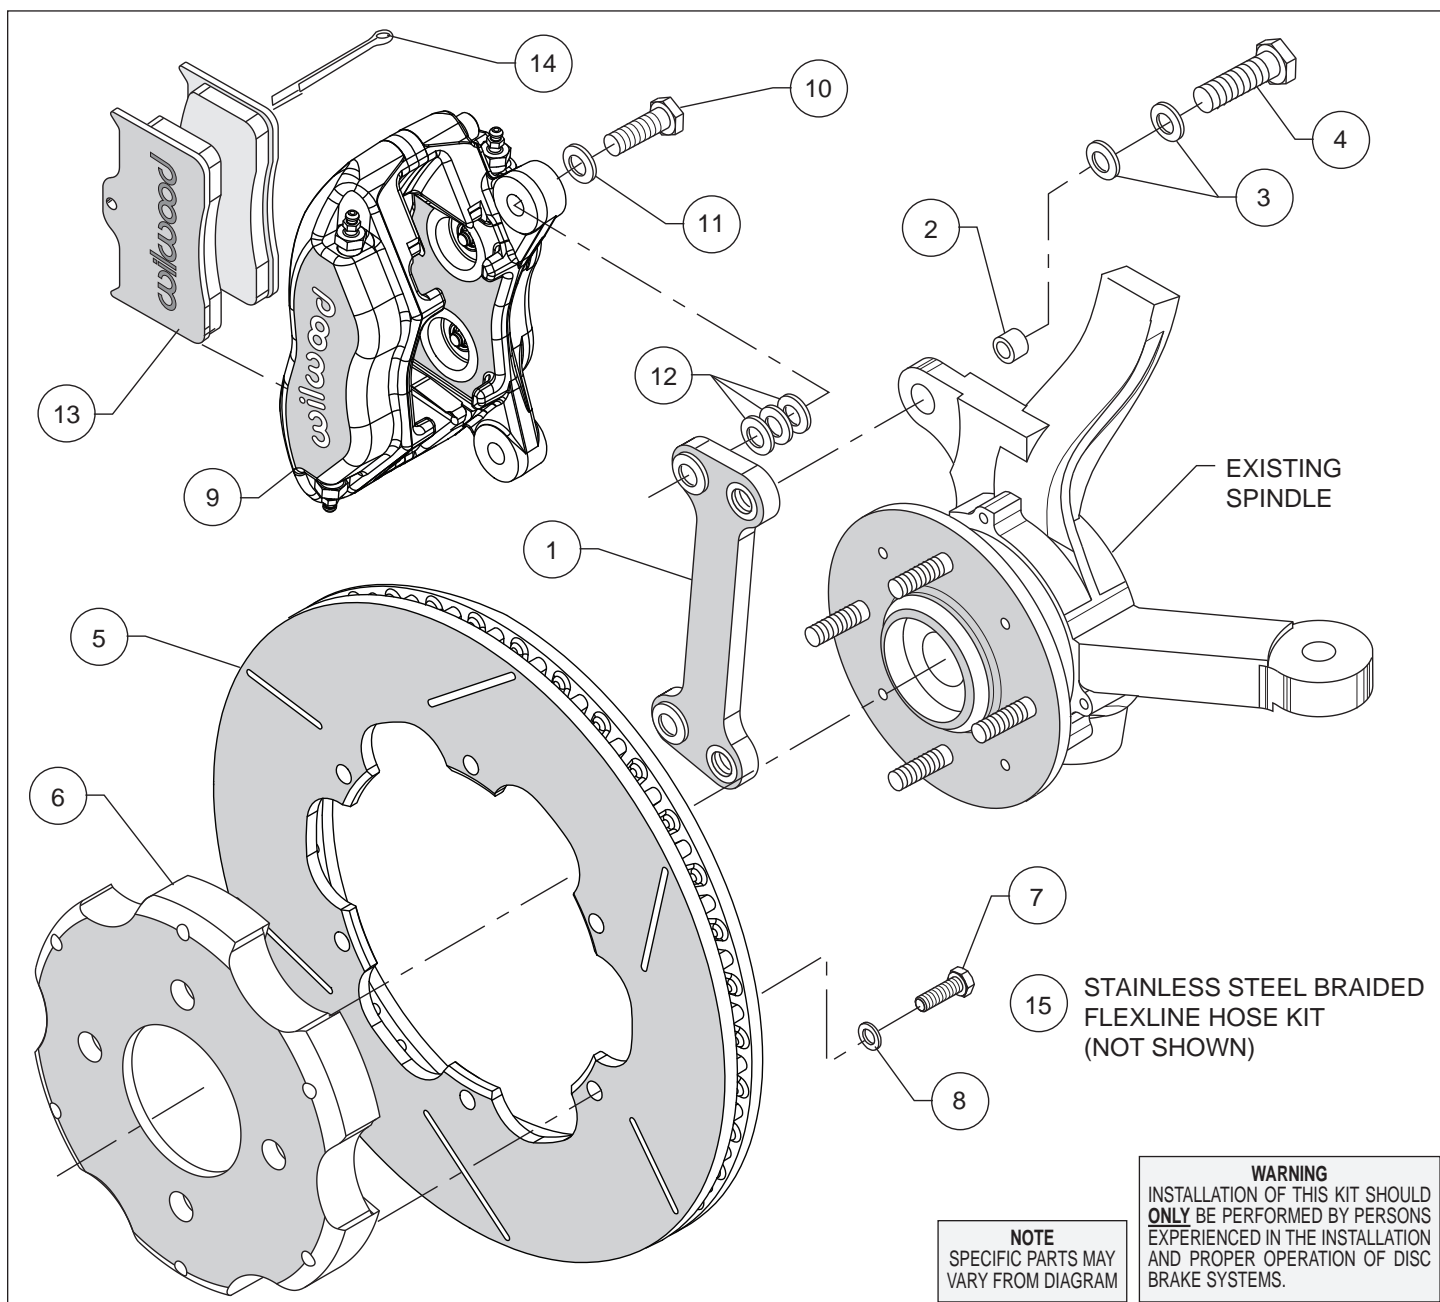
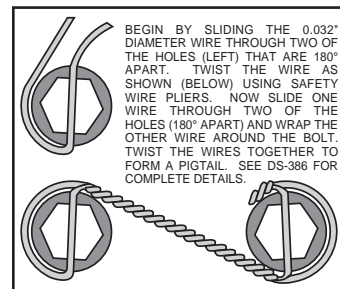
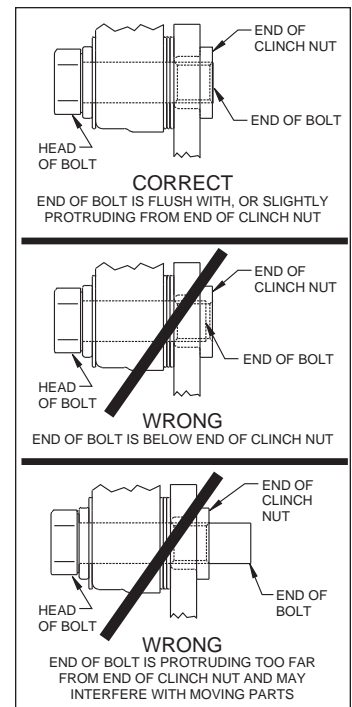

Figure 1. Typical Installation Configuration, Left Hand Application Shown
Figure 4. Safety Wire Diagram
Figure 5. Clinch Nut Engagement Diagram
**Assembly Instructions** (numbers in parenthesis refer to the parts list and Figure 1 on the preceding pages): **CAUTION:** All mounting bolts must fully engage clinch nuts. Be sure to check that all bolts are either flush or protruding through flanged side of clinch nut after shimming, Figure 5.
- Insert sleeves (2) into each of the two bracket mounting holes on the spindle "ears", Figure 1. Orient the caliper mount bracket (1) as shown in Figure 1, and install using bolts (4) and two washers (3). Ensure that the flanged heads of the clinch nuts in the bracket are facing outboard. Temporarily tighten the mounting bolts.
- Orient the rotor (5) and the hat (6) as shown in Figure 1 and Photo 1. Attach rotor to hat using bolts (7) and washers (8). Using an alternating sequence, apply red *Loctite*® 271 to the threads, and torque to 25 ft-lbs. Safety wire bolts using standard 0.032 inch diameter stainless steel safety wire as shown in Figure 4. Please refer to Wilwood's data sheet DS-386 (available at [www.wilwood.com/Pdf/DataSheets/ds386.pdf](http://www.wilwood.com/Pdf/DataSheets/ds386.pdf)) for complete safety wire installation instructions.
- **NOTE:** Please reference the caution statement at the beginning of the assembly instructions. Mount the caliper (9) onto the caliper mounting bracket (1) using bolts (10) and washers (11), as shown in Figure 1. Initially place three .035" thick shims (12) on each bolt between the caliper and the bracket, Photo 2. Temporarily tighten the mounting bolts and view the rotor (5) through the top opening of the caliper. The rotor should be centered in the caliper, Photo 3. If not, adjust by adding or subtracting shims between the bracket and the caliper. Always use the same amount of shims on each of the two mounting bolts. **NOTE:** The end of each bolt must be flush with or slightly protruding from the head of the clinch nut, as shown in Figure 5.
If necessary place spare shims (12) between washer (11) and caliper mounting ear to achieve the proper clinch nut engagement. Once the caliper alignment and clinch nut engagement are correct, remove the bolts one at a time, apply red *Loctite*® 271 to bolt threads, and torque to 40 ft-lb. For an added measure of safety, bolts may be safety wired using standard 0.032 inch diameter stainless steel safety wire as shown in Figure 4. Please refer to Wilwood's data sheet DS-386 (available at [www.wilwood.com/Pdf/DataSheets/ds386.pdf](http://www.wilwood.com/Pdf/DataSheets/ds386.pdf)) for complete safety wire installation instructions.